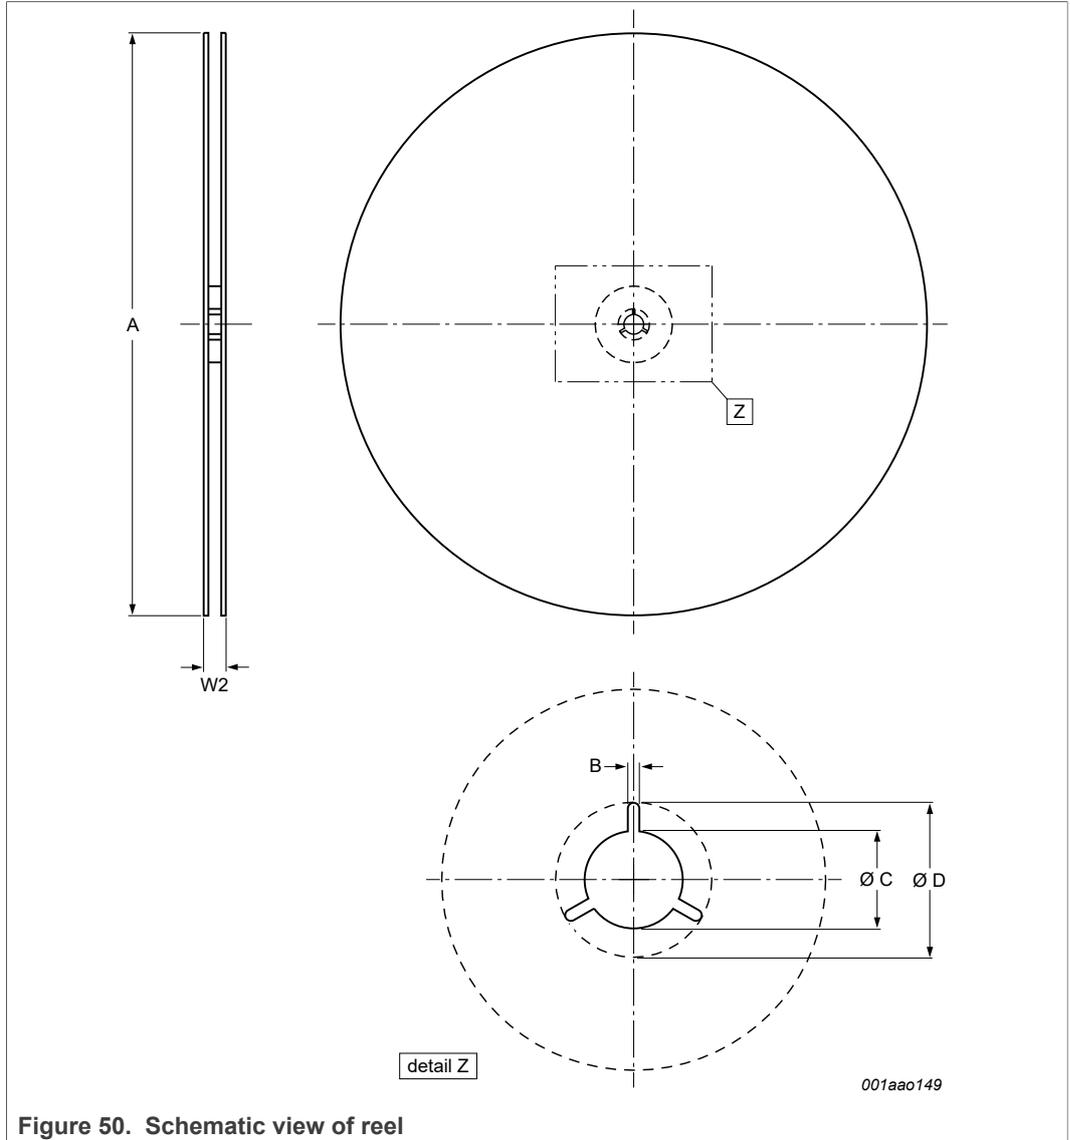

Figure 50. Schematic view of reel
- Reel dimensions (Figure 50 and Table 8)
| | | | Fig. 50. | Schematic view of reel | 46 |